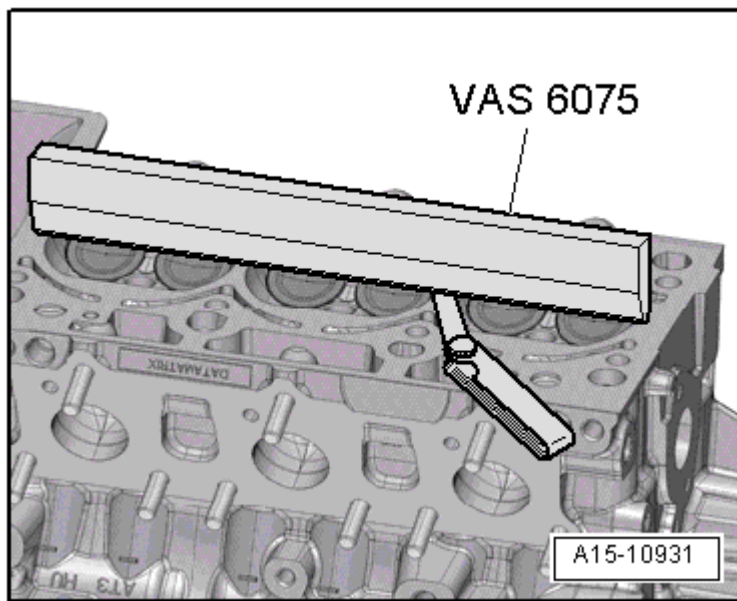

Fig. 8: Checking Cylinder Head for Distortion
- Check for distortion, refer to **Fig. 8**